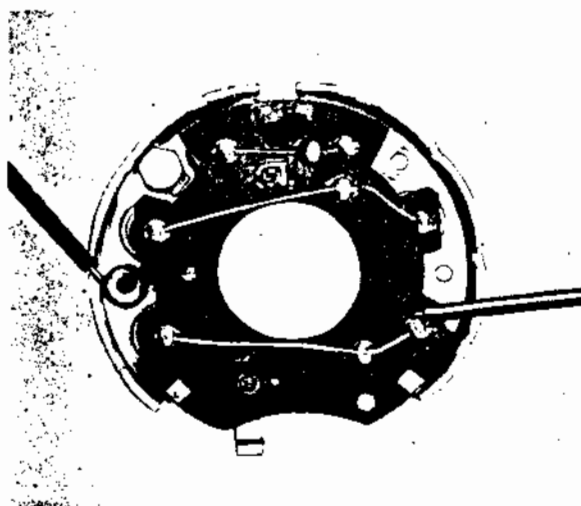

Figure 1D-10 Testing Positive Diodes
7. Using a test lamp, check negative diodes by holding the plus probe of test lamp onto diode housing and the other probe on the diode connection. The test lamp should light. Reverse the probes and the lamp should not light. Negative diodes allow current to pass from the housing to the connection and block current flow in opposite direction. If a negative diode is defective, replace the heat sink assembly. See Figure 1D-11.